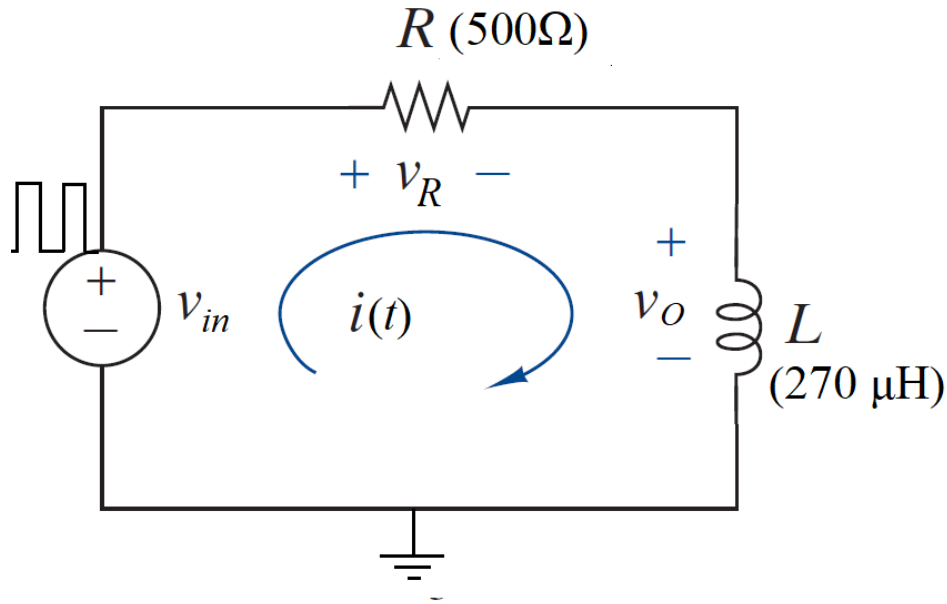

Figure 1: A series RL circuit
2. Patch the circuit given in Fig. 1 on the breadboard and apply pulse train to it.